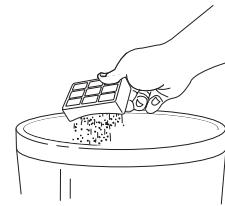

Fig. 23
- 3 Turn the filter over so that the dirty side is on the bottom. Tap it vigorously against the inside of a trash receptacle to knock off any dust. **(Fig. 23)**